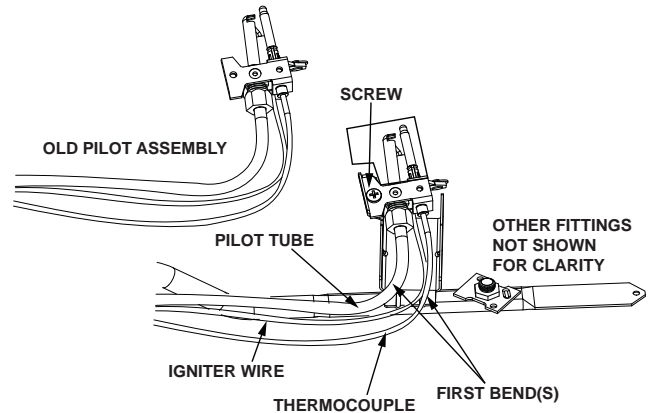

FIGURE 40.
2. Inspect the viewport for damage and replace as required (Figure 40).